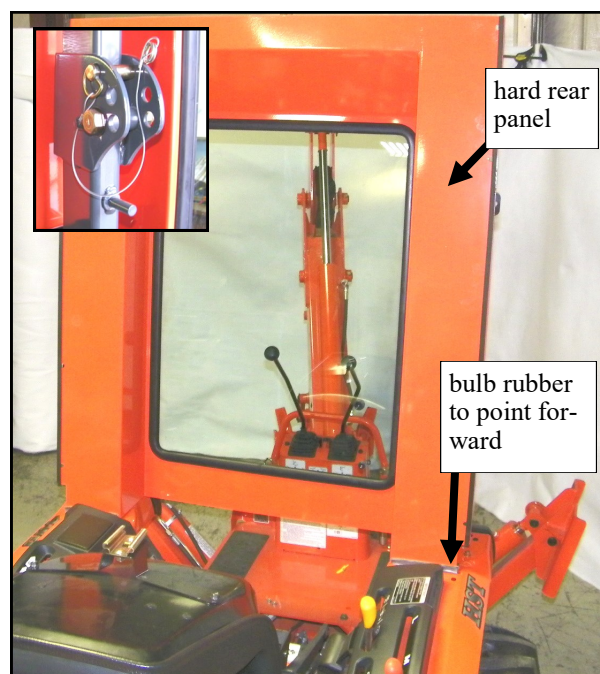

Fig. 4.2 (view from front left side of tractor)
4.2 See fig. 4.2. With assistance, place the hard rear panel on the tractor in front of the R.O.P.S. tubing oriented as shown with the window towards the rear. The bulb rubber on the bottom of the left and right sides should be pointing forward. NOTE: per the inset picture in the top left hand corner of fig. 4.2, be sure both removable pins for the fold-down R.O.P.S. are oriented for easy outboard pin removal once the optional hard rear panel is bolted in place.